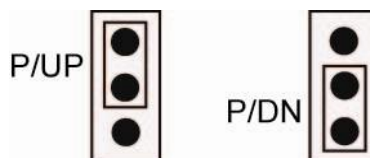

Figure 10. Pull-up/down jumper configuration
5. Set each jumper for pull-up (P/UP) or pull-down (P/DN), as shown in Figure 10. Use the jumper labeled **DIO A** to configure Port A, and **DIO B** to configure Port B.